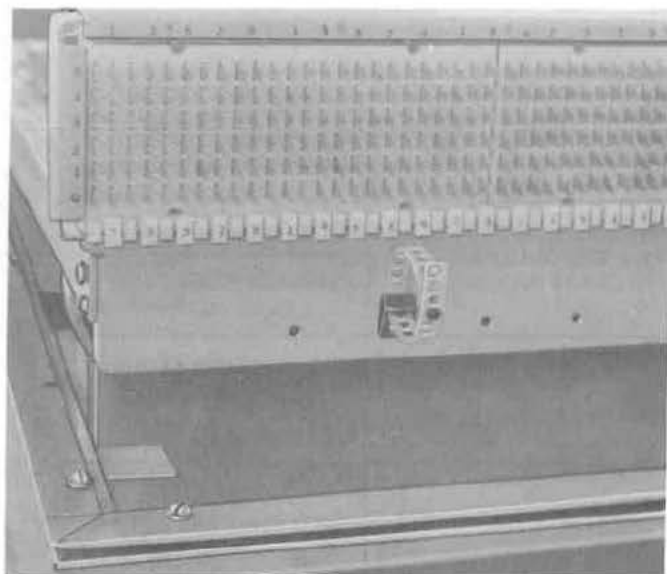

Fig. 10—Method of Mounting Cable Clamps
**9.04** Secure the cable to the terminal field framework with plastic clamps furnished in the loose parts bag. Four holes are provided on the front of the terminal field frame assembly for bolting the clamps to the frame. (See Fig. 10.)